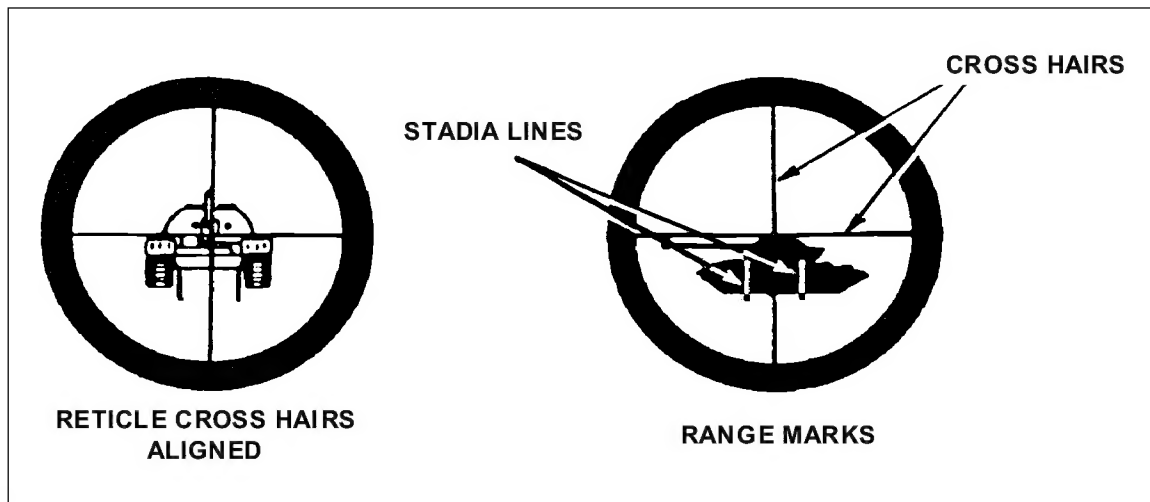

Figure 1-4. Daysight reticle and stadia lines.
(6) The daysight's telescopic lens and infrared receiver align to define the LOS to the target. The tapered cross hair helps the gunner concentrate on the center of his FOV. Then, he can quickly place the cross hairs on the target's center of mass. He uses the stadia lines to determine the range to the target (Figure 1-4). For example, the stadia lines show how large a standard 3-meter by 6-meter Soviet-built vehicle would appear at the Dragon's maximum engagement range of 1,000 meters.